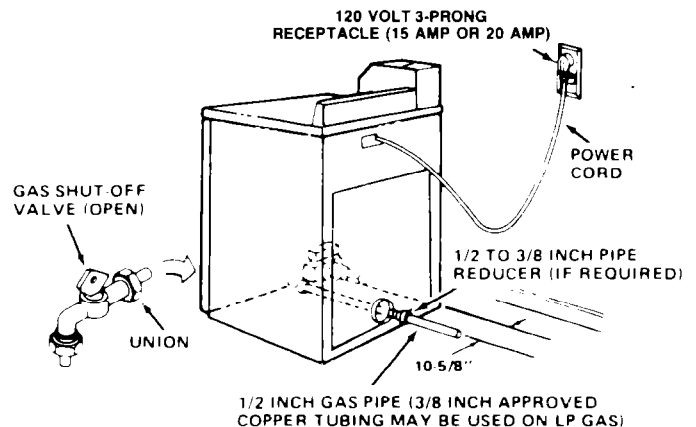

FIGURE 6
7. Connect the appliance to the gas supply. Make sure the shut-off valve located behind the toe plate is open (See Figure 6) and open shut-off valves in the supply line. Test all gas connections for leaks, using a brush and soapy water solution. (Liquid detergent works very well also.) Bubbles will indicate a loose connection.